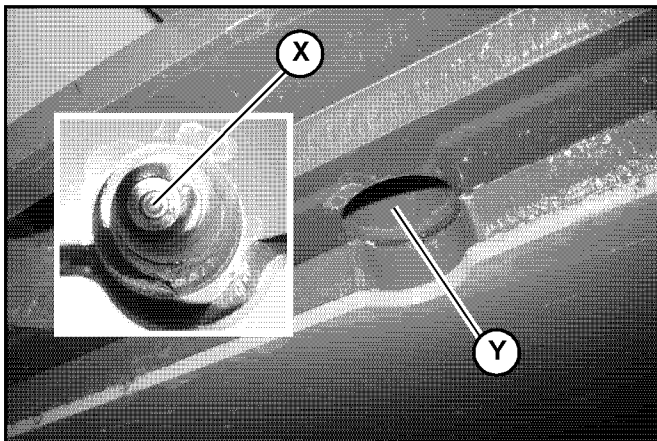

Fig. 124 – Radiator Drain Access
7. Access radiator drain plug (X, Fig. 124) through access hole (Y) in the frame underneath the radiator. Using an allen wrench, remove radiator drain plug (X) and allow the coolant to drain into the container.